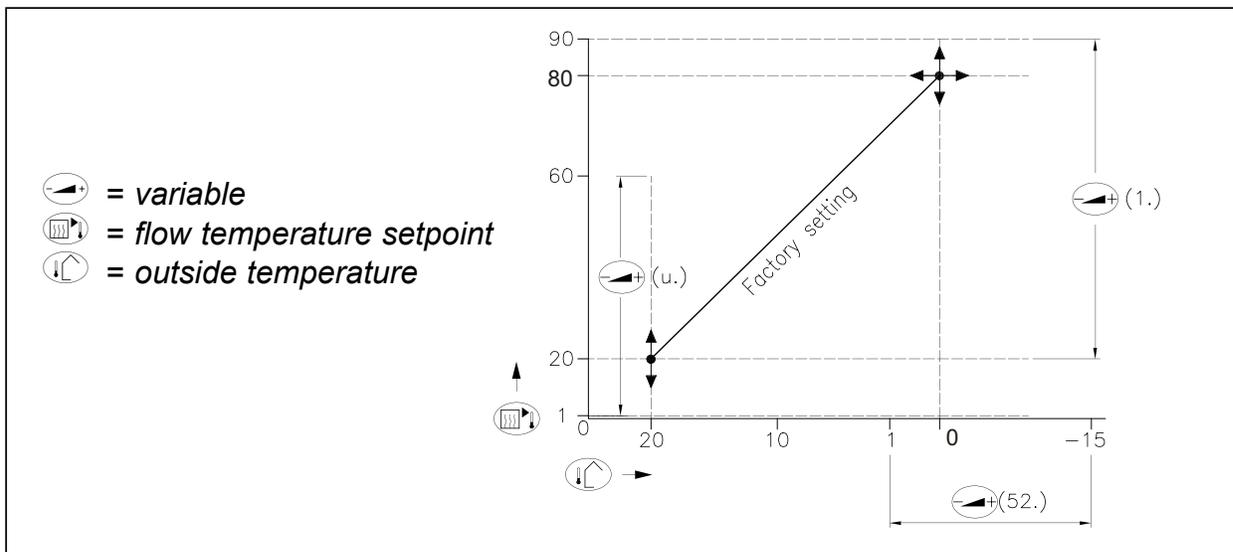

Fig. 20 Weather compensation slope
1. Simple time clock and on / off room thermostat, whereby the boiler output varies between the minimum and the maximum to maintain the flow temperature set point on the boiler. If an outdoor sensor is also connected the flow temperature is determined by the outside temperature and the compensation graph *detailed in Fig. 20*.
3. Outside sensor and simple time clock, whereby the boiler output varies between the minimum and the maximum to maintain the flow in accordance with the compensation graph *shown in Fig. 20*.
7.2.4 Outside-temperature sensor (control based on outside temperature and settings as in Fig. 20)
This means that at 0°C outside temperature the boiler will go to a flow temperature of 80 °C, at 20 °C outside temperature the boiler will go to a flow temperature of 20 °C (parameter u), see *Fig. 20*.